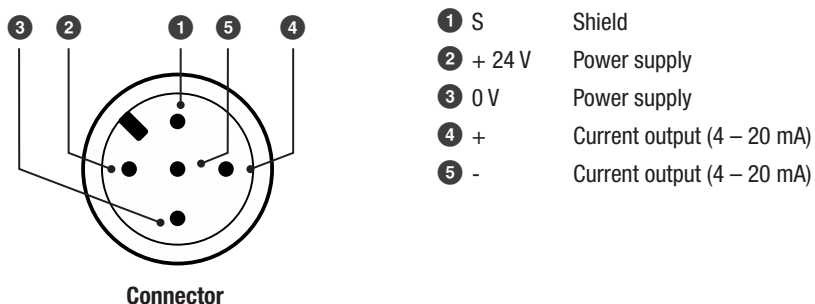

Fig. 9
5. Remove the cable gland ❸ and the strain relief ❷ from the connector upper part ❸.
6. Pull the cable through the cable gland ❸ and the connector upper part ❸ and wire the terminals of the connecting plate ❹ according to the wiring diagram. **Fig. 9**
7. Press the connecting plate ❹ into the connector upper part and align the cable.
8. Secure the cable with the strain relief ❷ and the cable gland ❸.
9. Put on the cover ❷ and insert the screw ❶.
10. Put the connector upper part onto the level electrode and tighten it with the screw ❶.